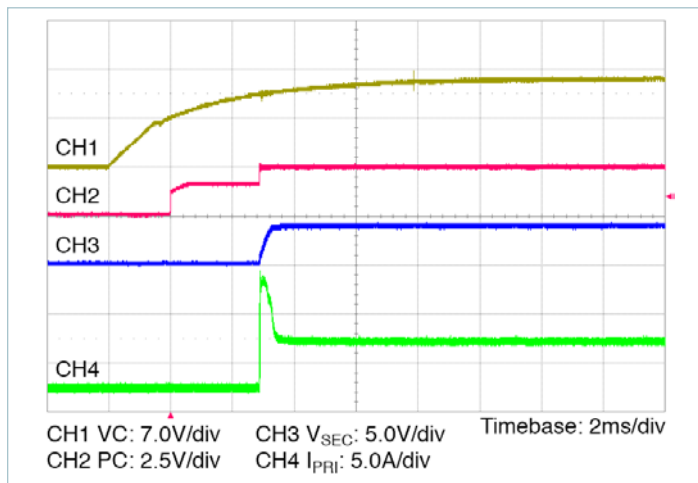

Figure 14 — Start up from application of VC;  $V_{PRI}$  pre-applied  $C_{SEC} = 1000\mu\text{F}$
- **Stand-alone operation (VC applied after  $V_{PRI}$ ):** In this case the VTM secondary will begin to rise upon the application of the VC voltage (See Figure 14). The Adaptive Soft-Start Circuit may vary the secondary voltage rate of rise in order to limit the inrush current to its maximum level. When starting into high capacitance or a short, the secondary current will be limited for a maximum of 1200µs. After this period, the Adaptive Soft-Start Circuit will time out and the VTM module may shut down. No restart will be attempted until VC is re-applied or PC is toggled. The maximum secondary capacitance is limited to 1000µF in this mode of operation to ensure a successful start.